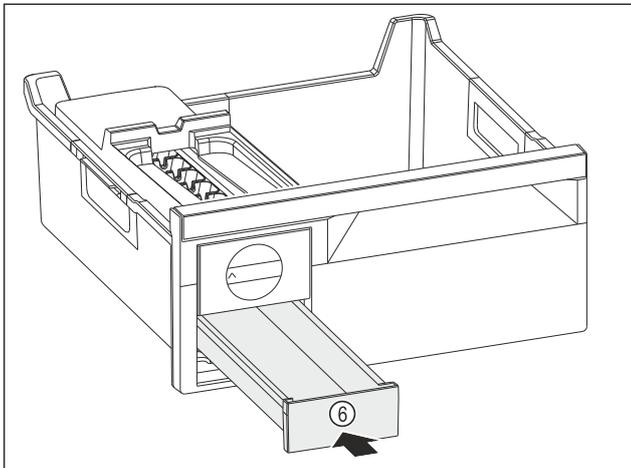

Fig. 117
- ▶ Insert the ice cube drawer Fig. 117 (6).